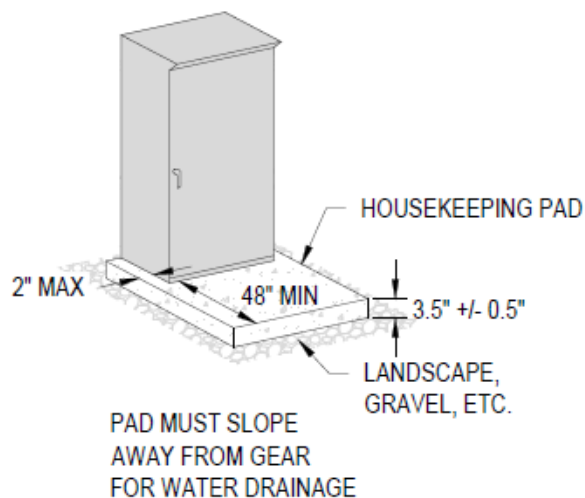

Figure 105. Housekeeping Pads (STD-D-6246)
- When installing indoor switchboard metering, the customer must install a 3.5" thick housekeeping pad with no more than 2" of concrete in front of any cabinet that contains PGE equipment. See Figure 105 for details.